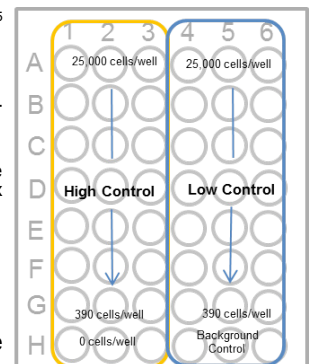

Fig. 2 Plate arrangement
- 3) Prepare 2-fold serial dilution of each well in triplicate set of wells for the high-control, low-control and background control (medium only) (Refer to Fig.2 for the plate arrangement).